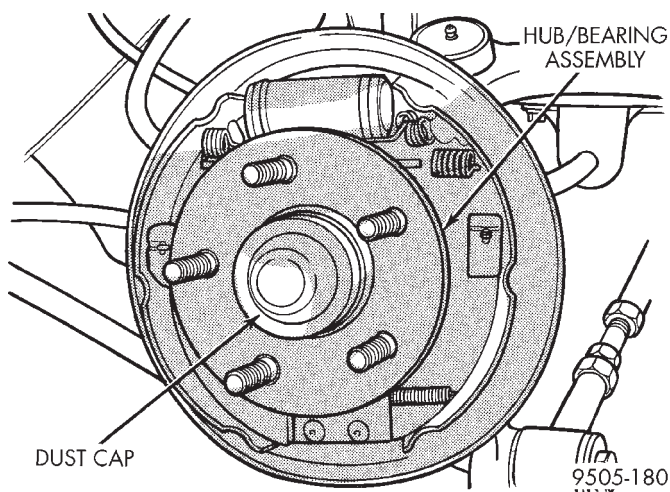

Fig. 82 Rear Hub/Bearing Dust Cap
(4) Remove dust cap (Fig. 82) from rear hub/bearing assembly.
(2) Install hub/bearing assembly dust cap, (Fig. 82) using a soft faced hammer.
(3) Install brake drum on rear hub/bearing assembly.
(4) Install rear wheel and tire assembly on vehicle. Tighten all wheel stud nuts in criss cross pattern to one-half the specified torque. Then repeat pattern, fully tightening the stud nuts to a torque of 129 N·m (95 ft. lbs.).
(5) Lower vehicle.